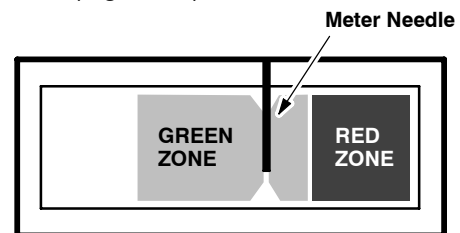

FIG. 14
5. Adjust pad pressure meter within Green Zone. Press the pad pressure switch to decrease or increase pressure. For best results adjust needle as shown (Figure 14).